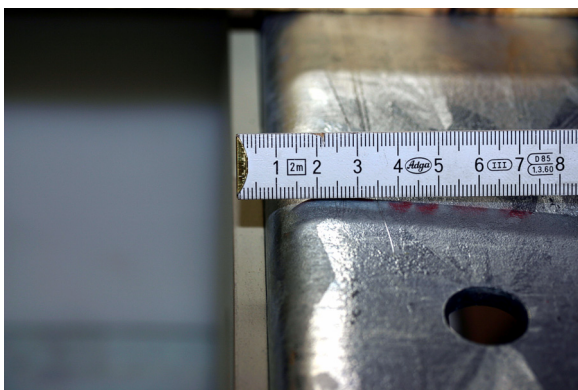

Fig. 7
- Discharge gates equipped with wear resistant lining should be checked at regular intervals for wear. If necessary, replace the lining. (Fig. 7).